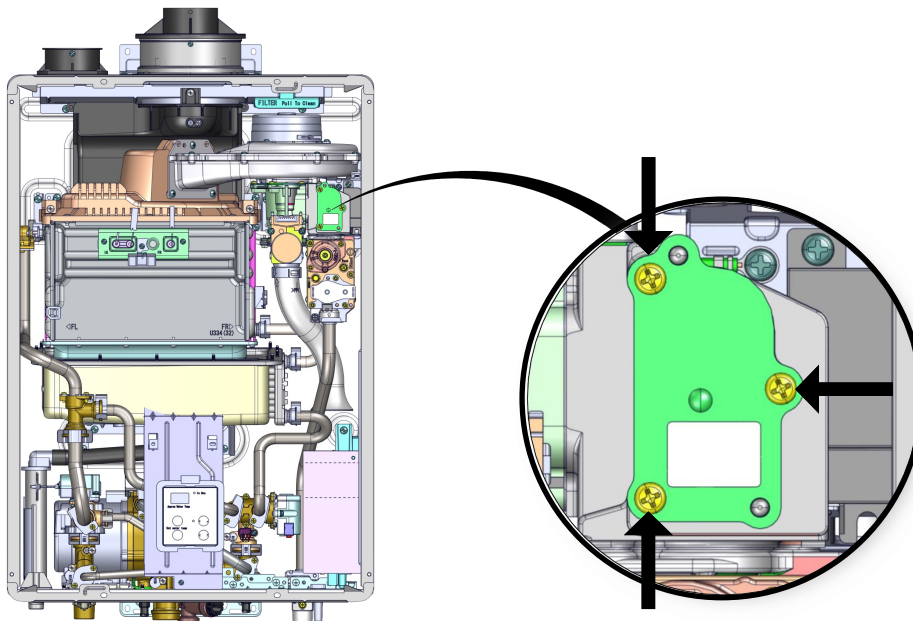

Figure 1. Three screws securing the orifice cover plate.
4. Locate the orifice cover plate on the top portion of gas valve (Figure 1).
5. Remove the three screws securing the orifice cover plate (Figure 1).